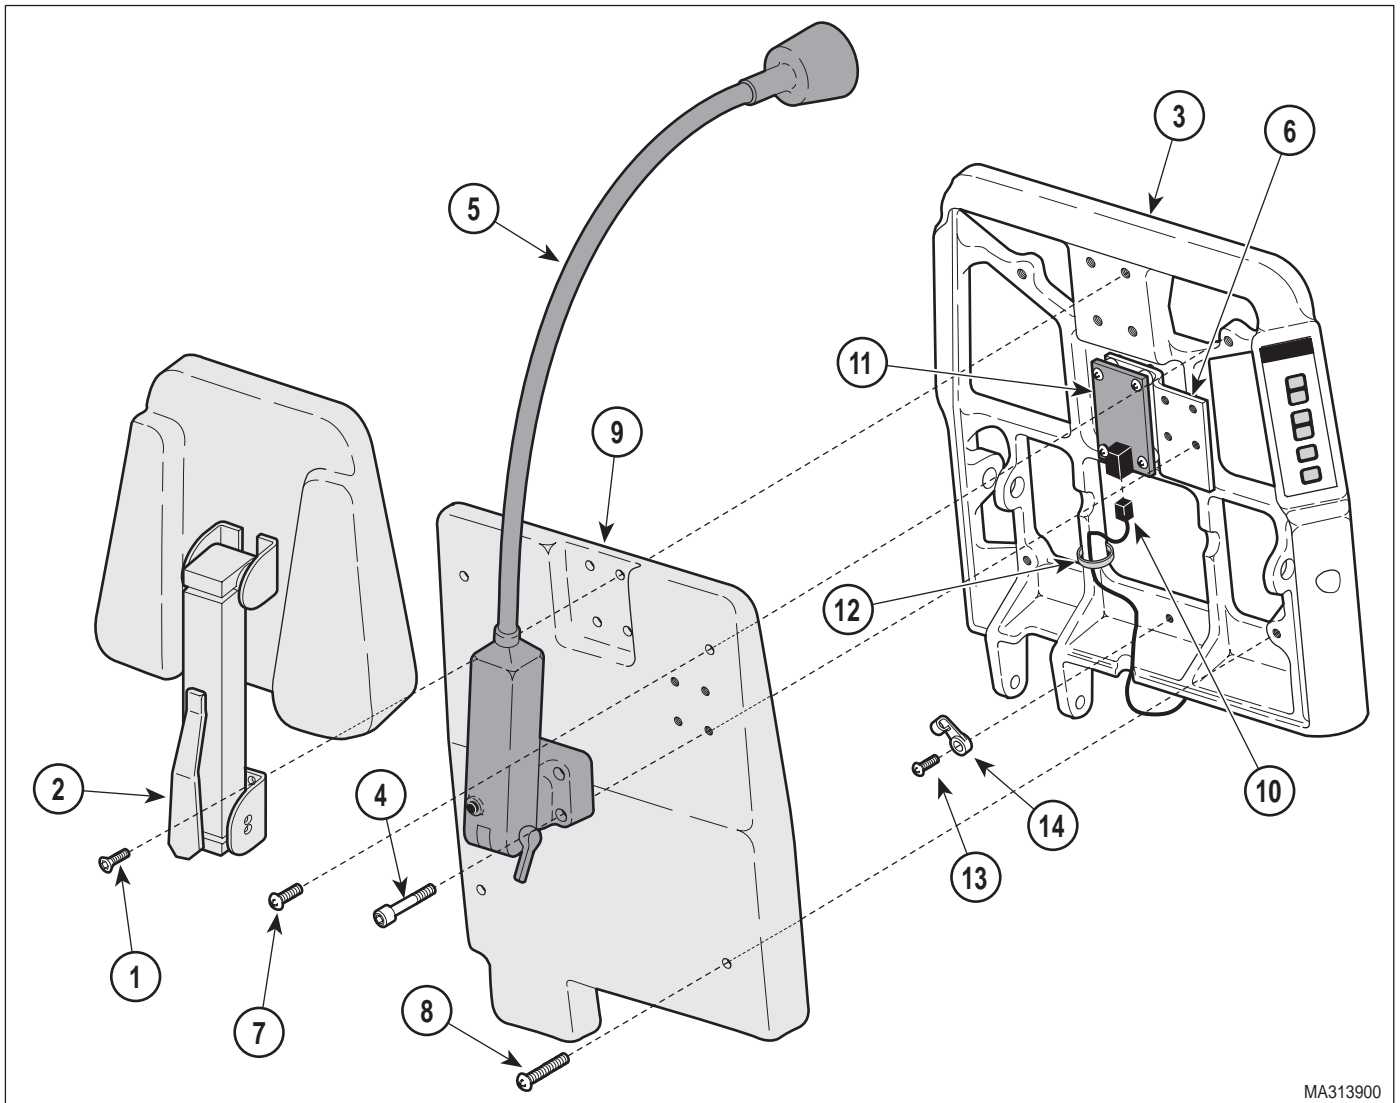
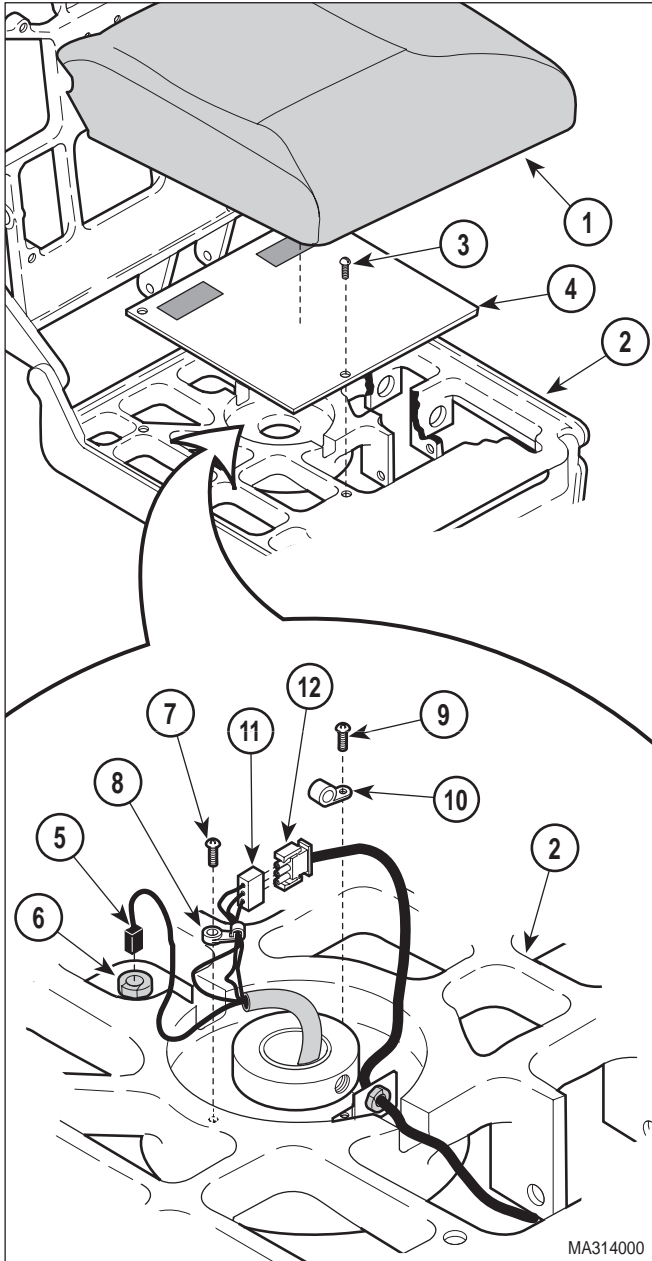

Figure 4-10. Access To Back Section
Figure 4-11. Wires Disconnection / Connection
- (3) Remove four screws (1, Figure 4-10) and headrest assembly or headrest block (2) from back casting (3).
- (4) If chair has an optional exam light assembly, remove four screws (4) and exam light assembly (5) from light bracket (6).
- (5) Remove two short screws (7), two long screws (8), and back cover (9) from back casting (3).
- (6) Disconnect modular cord (10) from interface board (11).
- (7) On older units, cut cable tie (12) securing modular cord (10) to back casting (3).
- (8) Remove upholstered seat section (1, Figure 4-11) from seat casting (2).
- (9) Remove three screws (3) and seat cover (4) from seat casting (2).
- (10) Carefully pull modular cord (5) out of bushing (6).
- (6) Install seat nut (6) on slide weldment (10). Tighten seat nut until no play can be felt when table top is rocked from side to side and table top has a small amount of resistance to being rotated.
- (7) Secure seat nut (6) in position by tightening setscrew (5) with 1/8 inch Allen Wrench.
- (8) Connect one wire (2) to COM. terminal and the other wire (2) to N.C. terminal of base up limit switch (4).
- (9) Secure two wires (2) to shaft of back actuator (3) with a cable tie (1).
- (10) Connect wire harness (11, Figure 4-11) to wire harness (12).
- (11) Install cable clamp (10) on wires.
- (12) Secure cable clamp (10) to seat casting (2) with screw (9).
- (13) Secure two cable ties (8) to seat casting (2) with two screws (7).
- (14) Feed modular cable (5) thru bushing (6).
- (15) Install seat cover (4) on seat casting (2) and secure with three screws (3).
- (16) Install upholstered seat section (1) on seat casting (2).
- (17) Connect modular cable (10, Figure 4-10) to interface board (11).
- (18) On older units, secure modular cord (10) to back casting (3) with cable tie (12). On newer units, install cable tie (14) on modular cord (10); then secure cable tie (14) to back casting (3) with screw (13).
- (19) Install back cover (9) on back casting (3) and secure with two long screws (8) and two short screws (7). Tighten screws until back cover starts to deform.
- (20) If removed, install exam light assembly (5) on light bracket (6) and secure with four screws (4).
- (21) If removed, install headrest assembly or headrest block (2) on back casting (3) and secure with four screws (1).
- (22) Plug chair power cord into wall outlet.